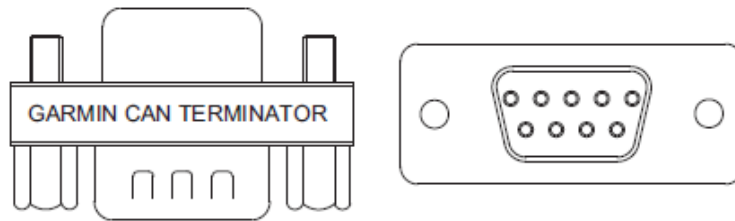
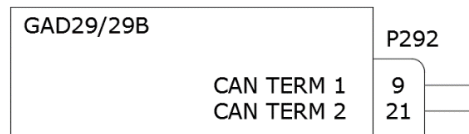

Figure 3-4 CAN Bus Termination (011-02887-00) for G5, GMU 11, and GAD 13
Figure 3-5 CAN Bus Termination for GAD 29/29B/29D
- The G5, GMU 11, and GAD 13 connector kits provide a 9-pin termination adapter that provides termination when attached to the device’s main connector. The termination adapter contains a 120Ω resistor that is connected between pins 1 and 2 (Figure 3-4).
- The GAD 29/29B/29D contains a 120Ω resistor inside the unit that provides termination when the two CAN TERM pins are connected together (Figure 3-5). Alternatively, the GAD 29/29B/29D can be terminated externally using a termination adapter, Garmin P/N 011-02887-00 (Figure 3-4).